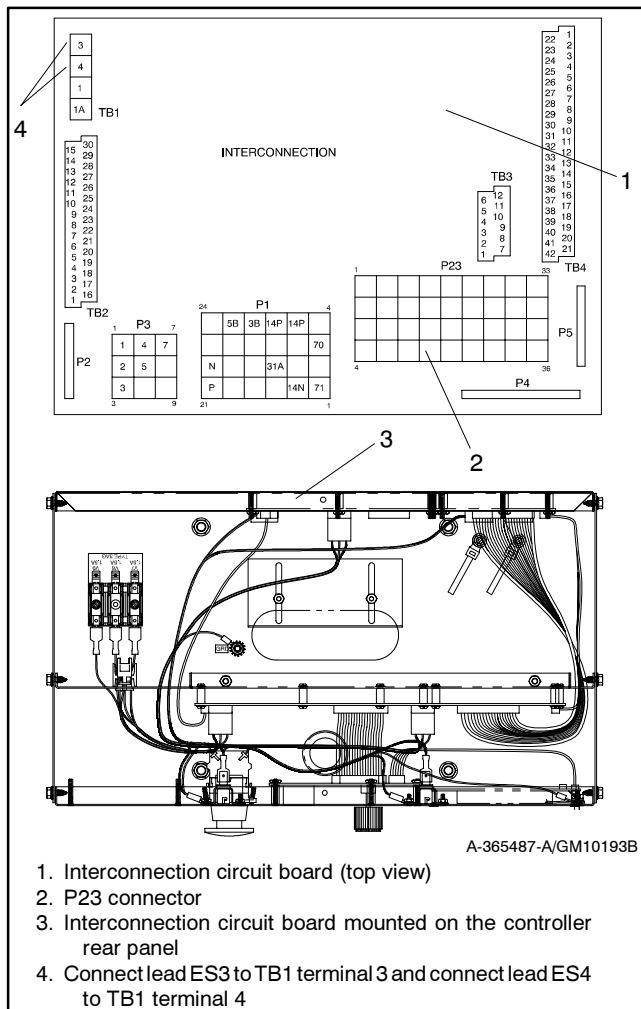

Figure 5 Attaching Wiring Connection Harness to Controller Circuit Board
- 2.6 Plug the wiring harness connector into the interconnection circuit board's P23 connector. Connect lead ES3 to TB1 terminal 3 and connect lead ES4 to TB1 terminal 4. See Figure 5. If access to the interconnection circuit board is difficult, remove the two controller panel top screws and center bottom screw and then loosen the bottom screws to swing the rear controller panel down.